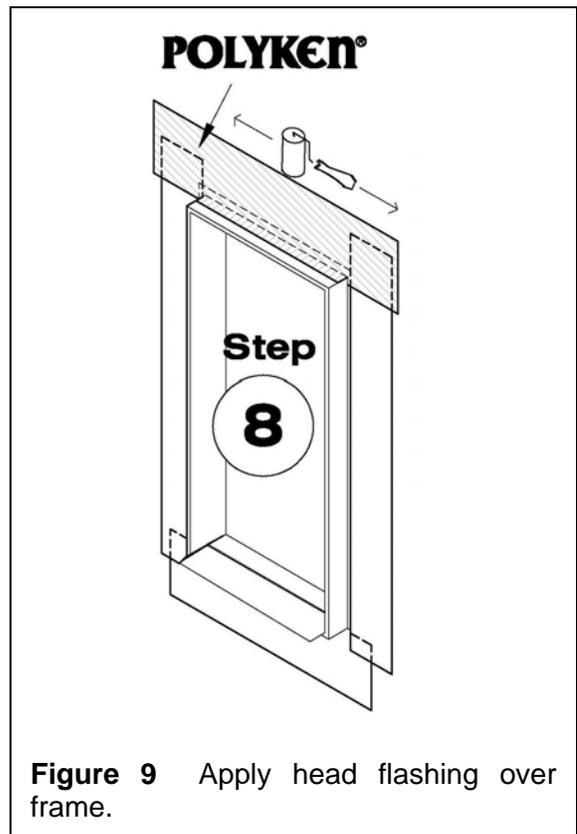

Figure 9 Apply head flashing over frame.
Step 8. Precut Polyken® head flashing tape to extend a minimum of 6" beyond the jambs of the rough opening. Peel off release liner and adhere Polyken® membrane over door fin and optional preformed head flashing (see Figure 9).